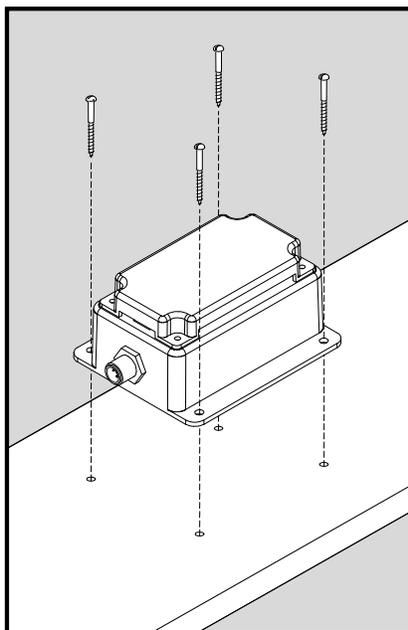

Figure 1 – Mounting the ACM100
Attach the ACM100 securely to the vessel using the included stainless steel mounting screws or other fasteners as shown in Figure 1 below. Do not use threadlocking compounds containing methacrylate ester, such as Loctite Red (271), as they will cause stress cracking of the plastic enclosure.